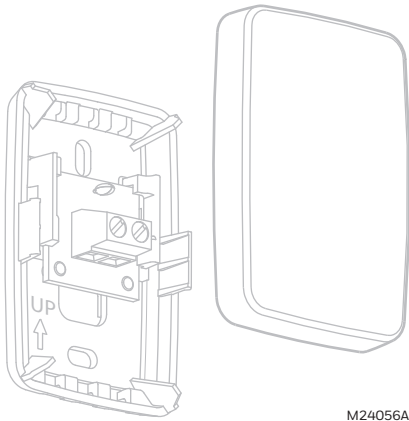

Fig. 35. Remove the cover
1. Remove the cover from the remote sensor see Fig. 35.